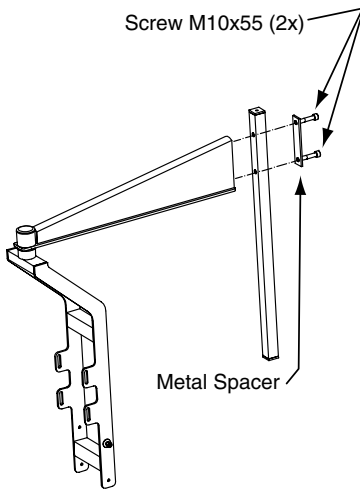

Figure 2
- ③ Attach V4 horizontal arm and side fittings to swivel bar using provided M10 x 55 screws (See Fig. 2). Make sure screws are secure.